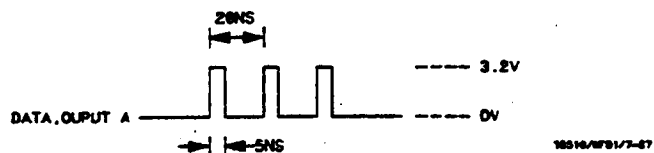

Figure 3-34. Pulse Generator Waveform For Glitch Test
2. Set the pulse generator as follows for the output shown in figure 3-34.